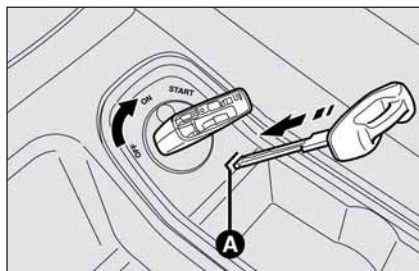

fig. 1
**IMPORTANT** If it is not possible to turn the ignition key to **ON**, remove the emergency key, fit it into slot **A-fig. 1** to unlock the ignition switch; then, turn the key to **ON** and follow the starting procedure. Contact Fiat Dealership.